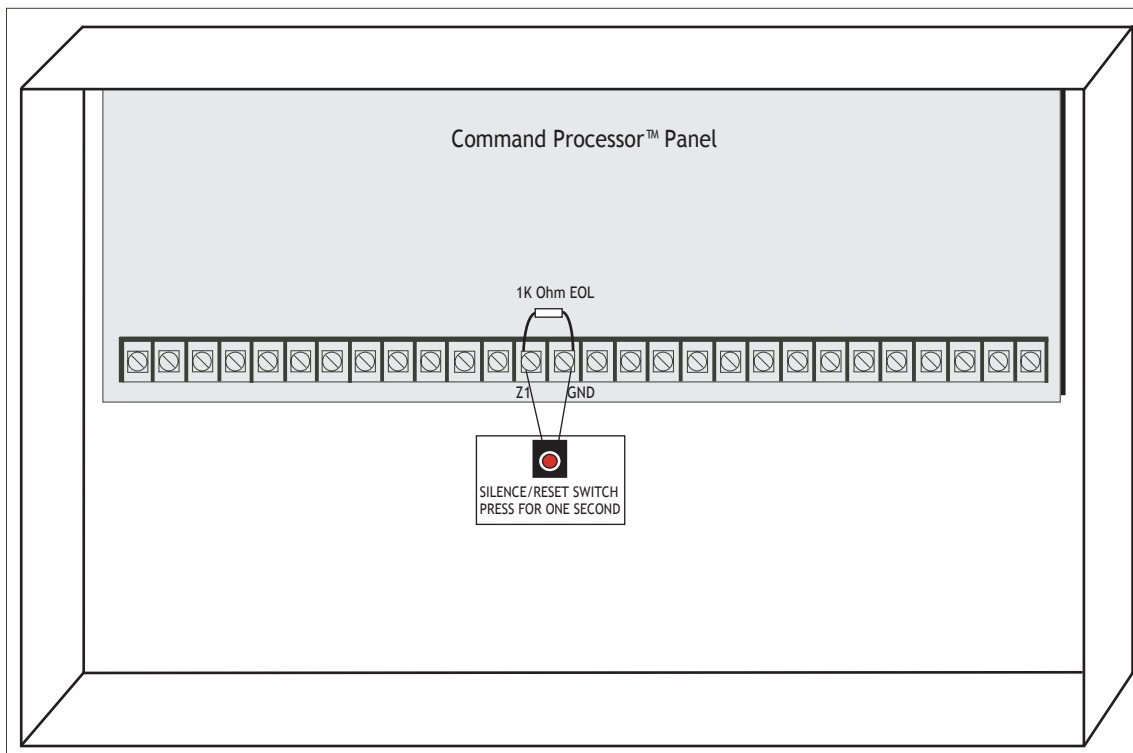

Figure 1: Model 303 Silence/Reset Push-Button Placement
3. Remove the remaining backing from the square adhesive piece on the push-button switch. Place the Model 303 at the location indicated on the label with the wires upward toward the terminal block. Press the switch firmly to the label as shown in Figure 1.
1. Connect the two wires from the push-button switch to the printed circuit board terminal block Z1 and GND. See Figure 1.
2. Connect a 1K Ohm resistor across the Z1 and GND terminals. See Figure 1.
1. **ZONE NO:** - displays. Enter the zone number for the 303 Silence/Reset Push-Button. For example: As installed in Figure 1, enter Zone number 1.